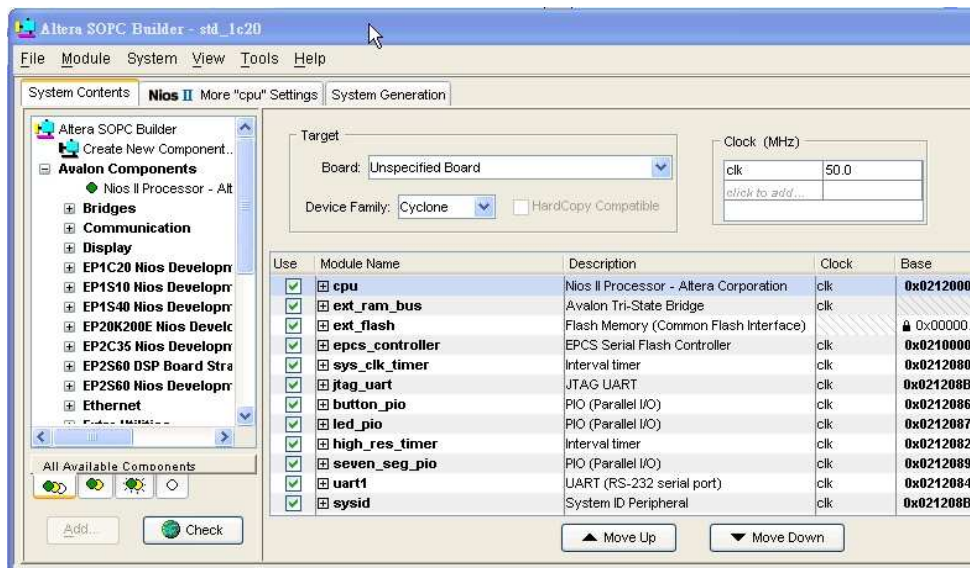

Figure 11.1 The Screen Capture of the SOPC Builder used to create NIOSII core on TREX C1.
8. Figure 11.1 shows the screen capture of SOPC Builder targeting NIOS II core in TREX C1 board.